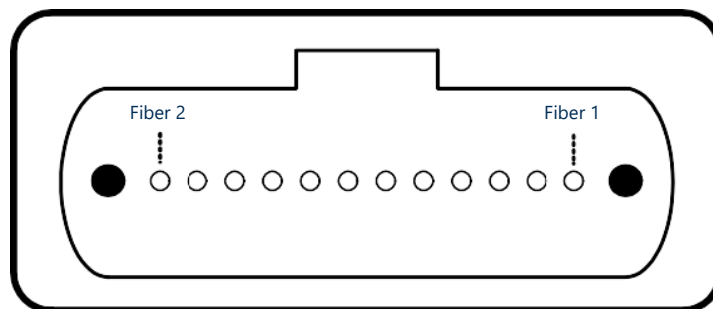

Figure 3. Outside View of the QSFP28 Module MPO Receptacle
Figure 3 shows the orientation of the multi-mode fiber facets of the optical connector. Figure 3 shows the orientation of the multi-mode fiber facets of the optical connector.
- VccRx, Vcc1 and VccTx are the receiving and transmission power suppliers and shall be applied concurrently. Recommended host board power supply filtering is shown in Figure 3 below. Vcc Rx, Vcc1 and Vcc Tx may be internally connected within the module in any combination. The connector pins are each rated for a maximum current of 1000mA.